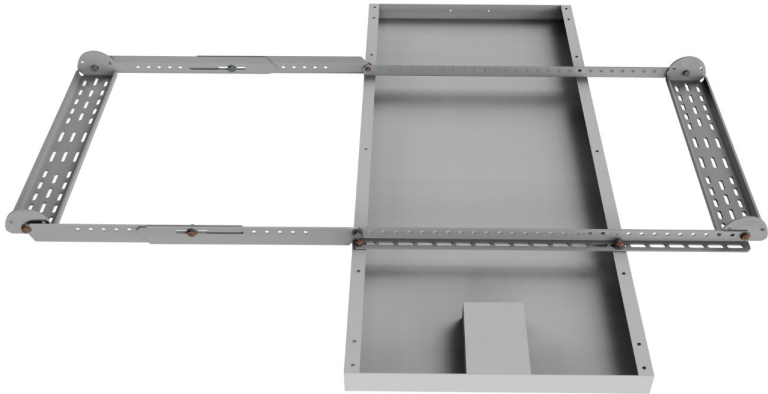

FIGURE 3-11. Attaching the lower mount bracket
- 5. Attach the bottom extended mount bracket to the extended mount struts as shown in FIGURE 3-11 (p. 10).